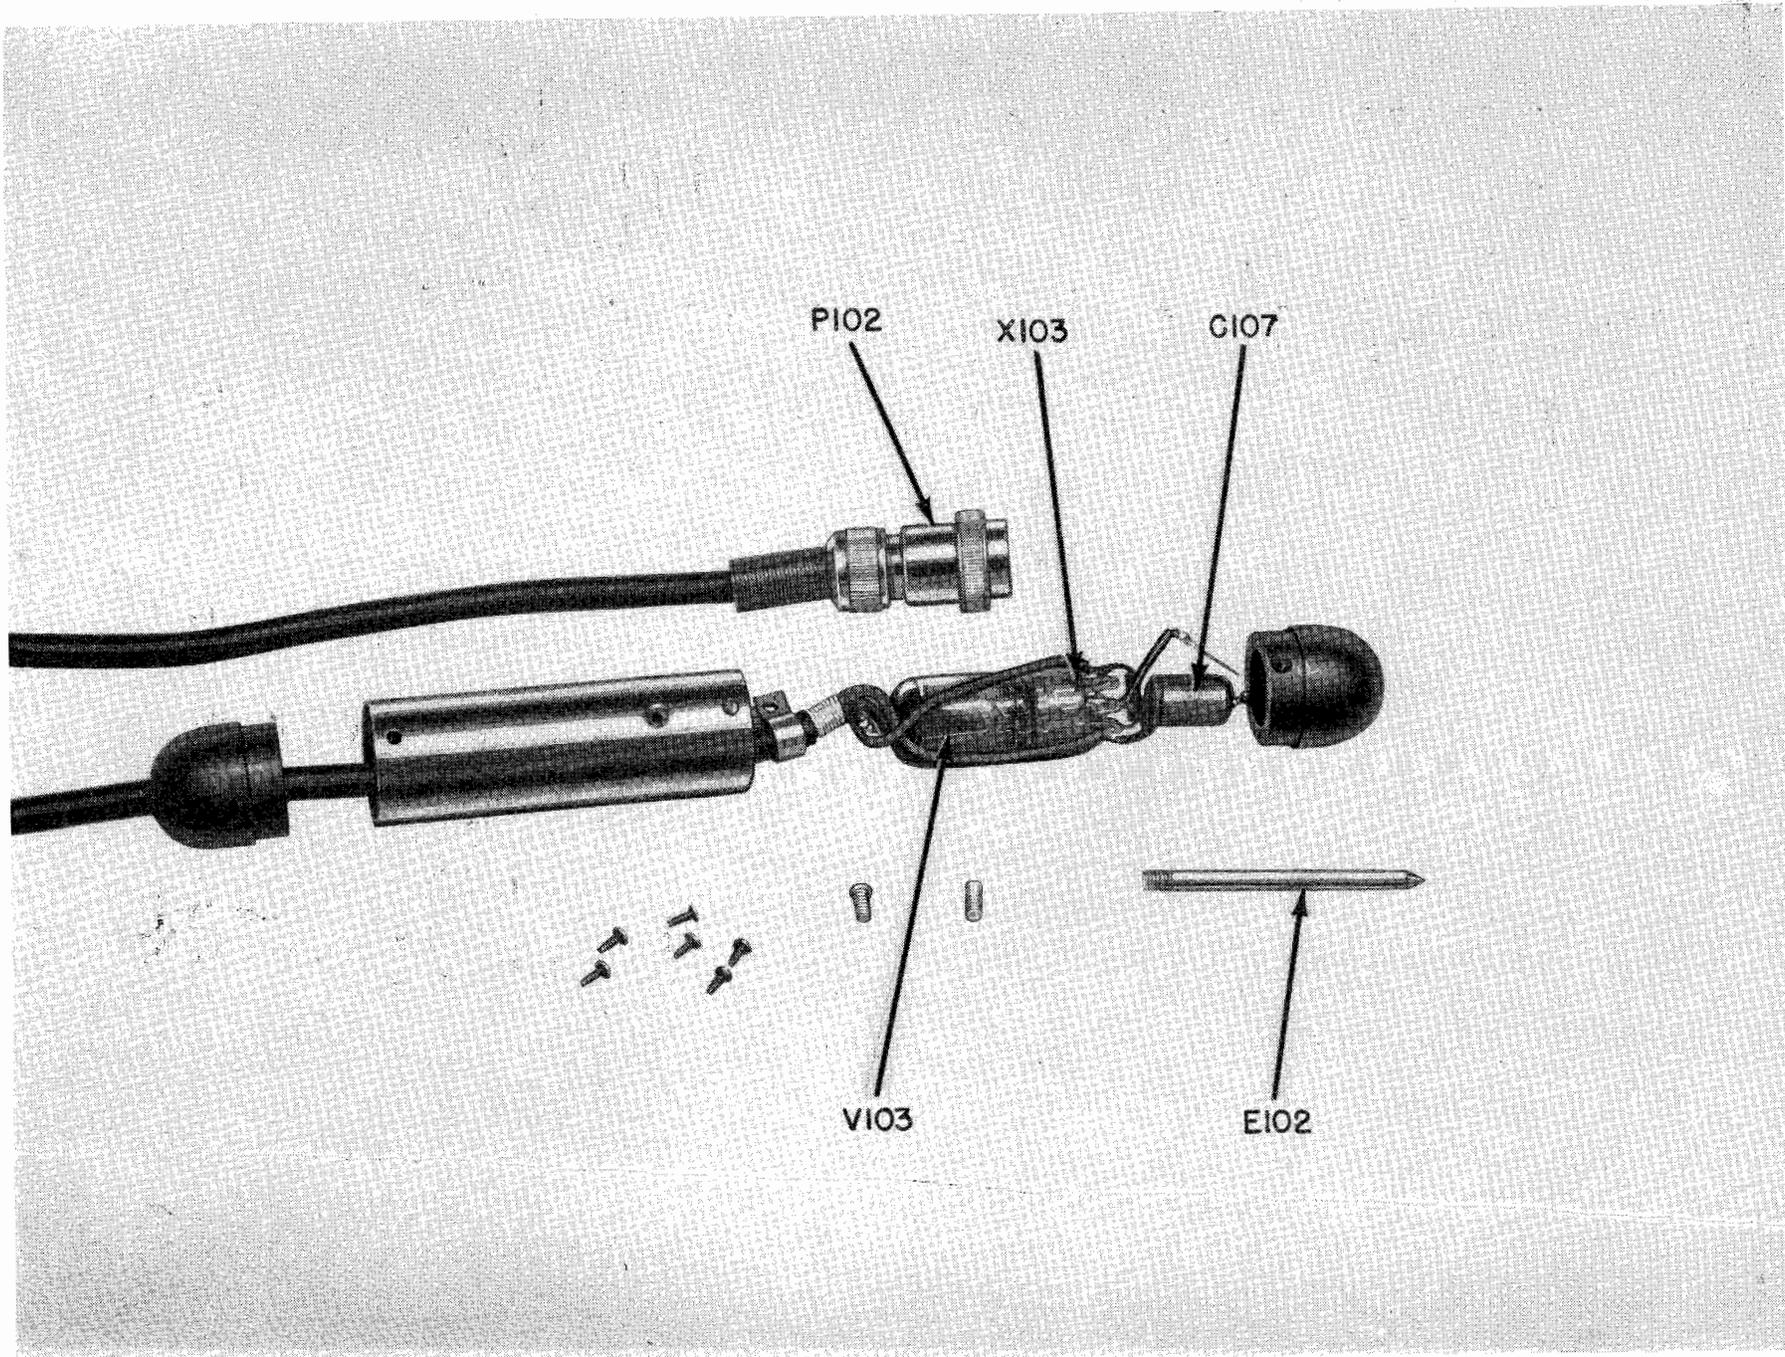

Figure 6-1. AC Probe, Cover Removed
- a. In case of failure of the type 6AL5 tube in the probe, it will be impossible to adjust the meter to zero for AC voltage measurements on the lower AC ranges. This tube is readily replaced by first removing the ground clamp screw and the three small screws at each end of the metal sleeving. Then the rear plug and metal sleeving may be moved back far enough to permit removal of the tube. Figure 6-1 is a view of the probe with the cover removed.